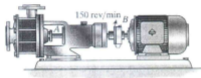

Figure 8
6. a) The pump in **Figure 8** operates using the motor that has a power of 80 W. If the impeller at *B* is turning at 140 rev/min, determine the maximum shear stress developed in the 25-mm-diameter transmission shaft at *A*. (12)